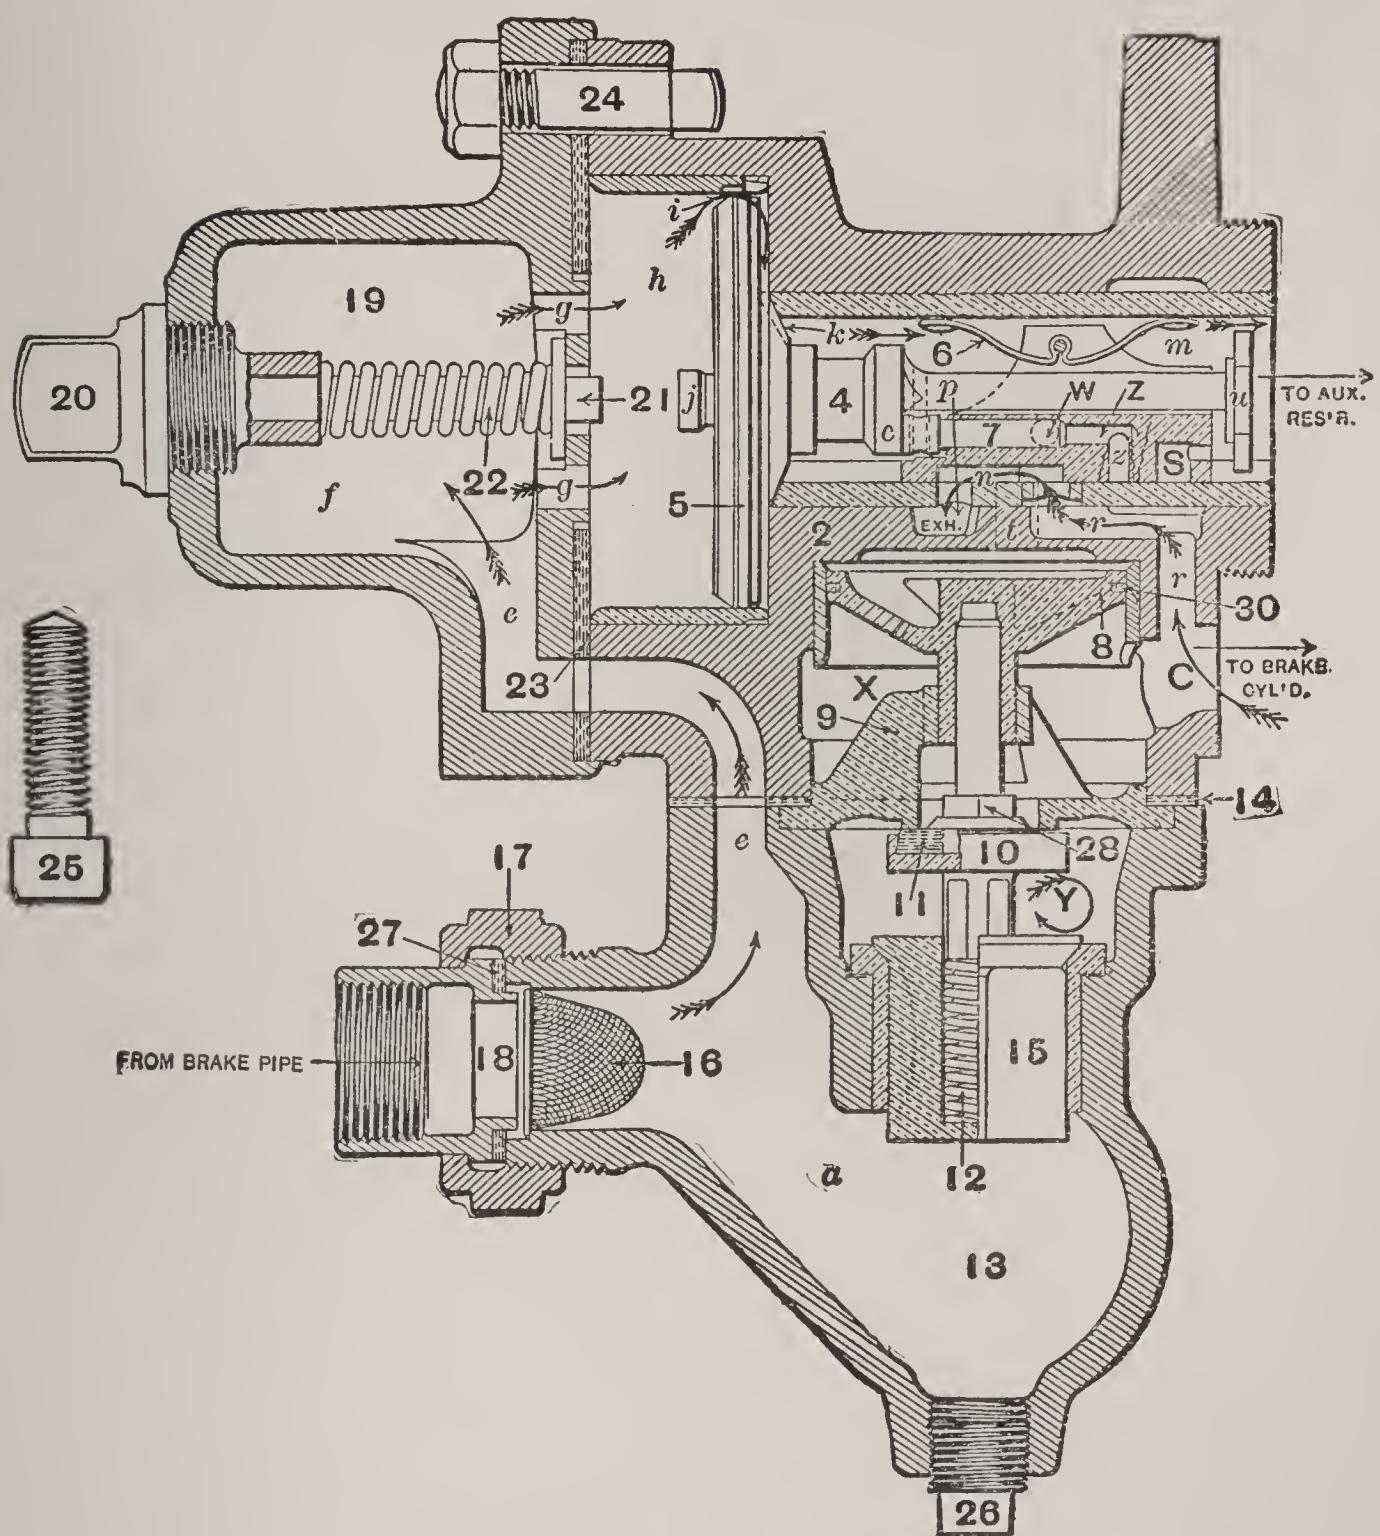
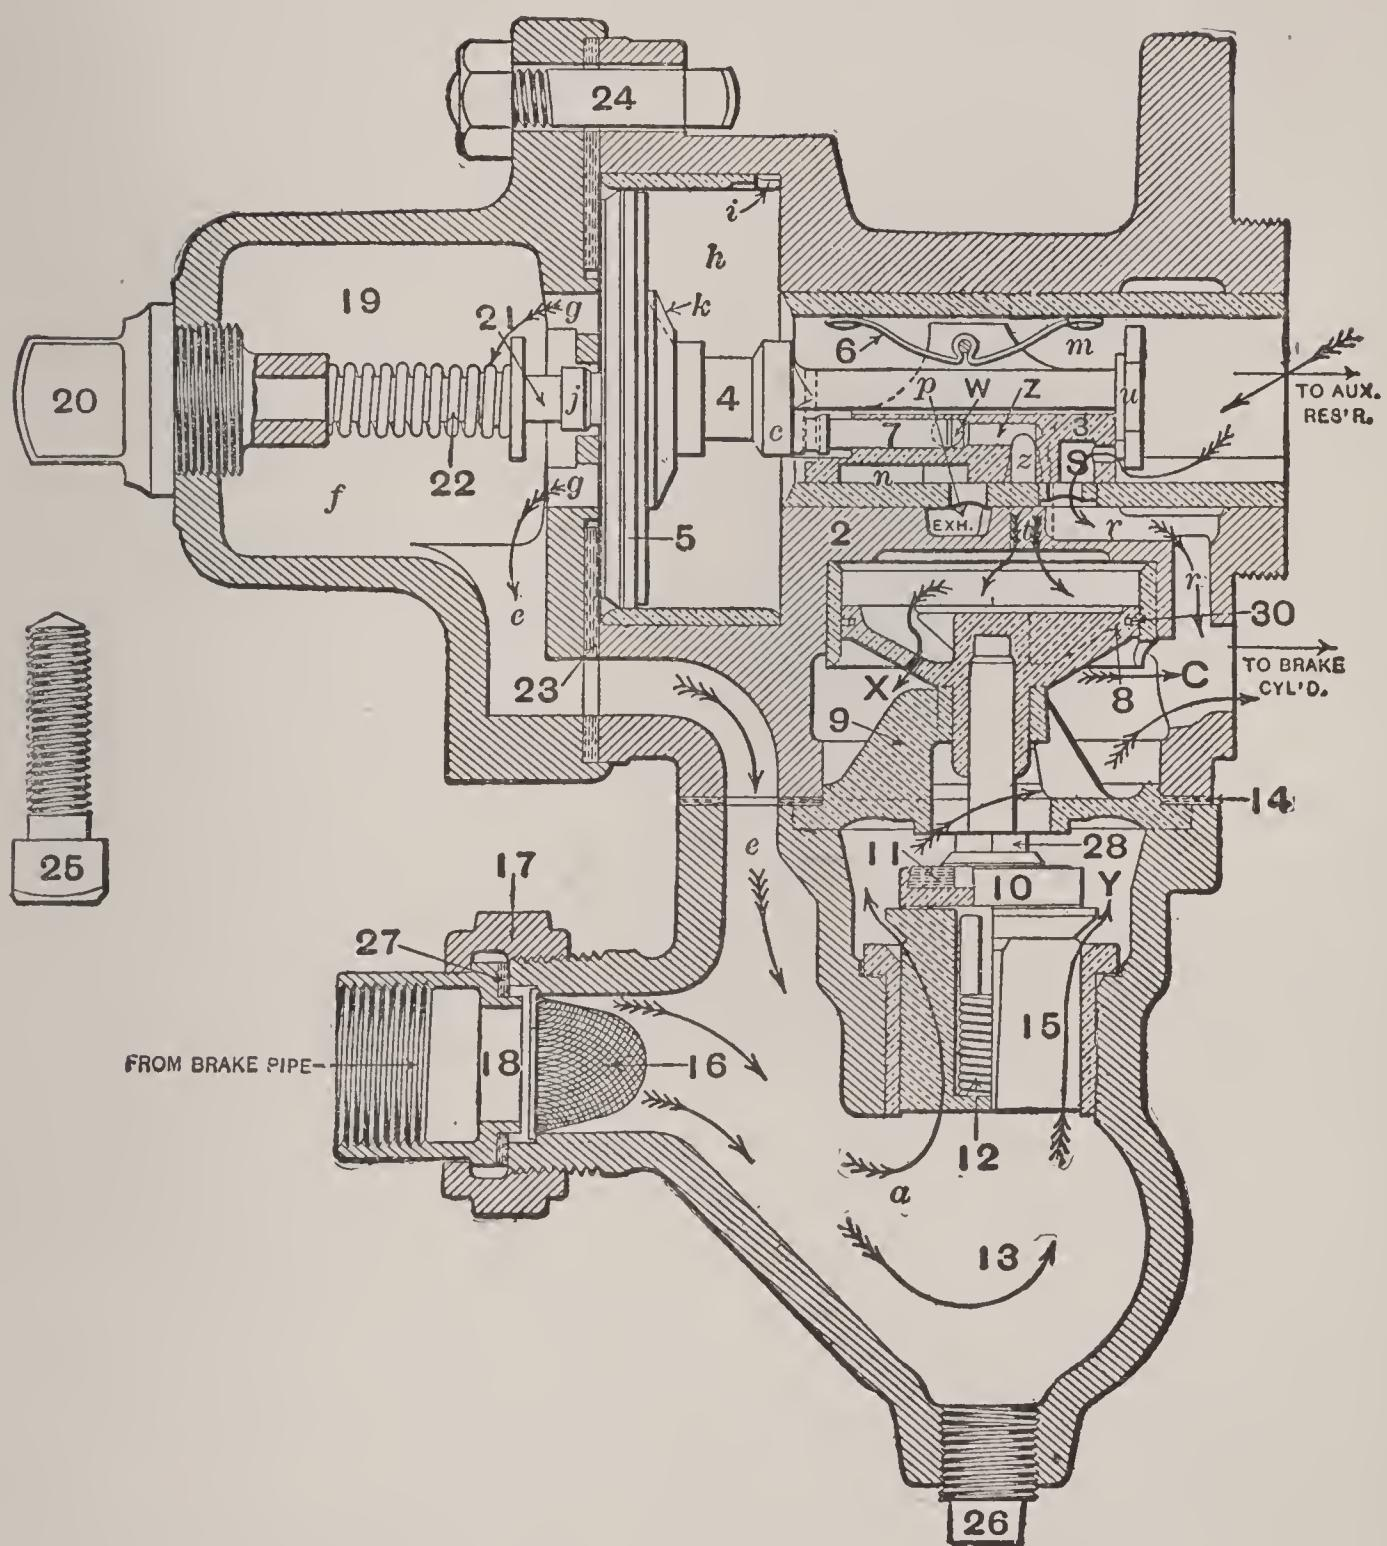
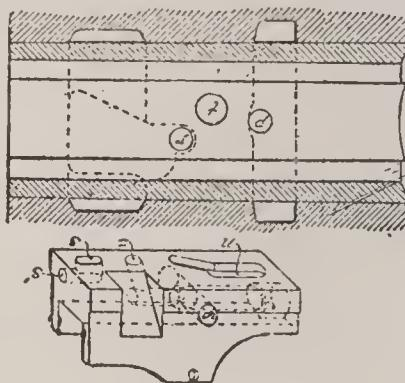

Fig. 1.
Fig. 4.
Fig. 5.
The quick action valve receives its name from three distinct operations it performs in response to variations of brake pipe and auxiliary reservoir pressures, which are (1) it charges the auxiliary reservoir; (2) applies the brakes; (3) releases the brakes. The various positions of the working parts of the triple in accomplishing these results are shown in Figs. 1, 2, 3 and 4. Fig. 5 is a perspective view of the slide-valve and its seat.
**List of Parts.** The various parts of the triple valve, as shown in Fig. 1, are as follows:
**Charging.** Air from the brake pipe enters the triple valve at *a* (Fig. 1) and flows through passages *e*, *f*, *g* and *h*, past the main piston, through feed grooves *i* in the bushing and *k* in the piston seat, and thence through chamber *m* to the auxiliary reservoir, as indicated. Air continues to flow from the brake pipe to the auxiliary reservoir until the pressures equalize, when the main piston is balanced.
**Emergency Application.** A gradual or service reduction of brake pipe pressure causes the main piston to move to the left until stem *j* encounters stem 21, when the tension of the graduating spring prevents a further movement, but a sudden brake pipe reduction causes the main piston to move out so quickly that graduating spring 22 cannot withstand the impact of stem *j*, but yields so that the piston moves to the position shown in Fig. 4. In this position a diagonal slot in the slide-valve (Fig. 5) uncovers port *t* (indicated by dotted lines just below the letter Z), which admits air from the slide-valve chamber to the chamber above emergency piston 8. Piston 8 is thereby forced downward and unseats emergency valve 10, allowing the pressure in the small chamber Y, above check-valve 15, to escape into the brake cylinder. The brake pipe pressure almost instantly raises the check-valve, and the brake pipe air rushes through chambers *a* and Y into the brake cylinder at C. Air from the auxiliary reservoir simultaneously flows through port S of the slide-valve and passage *r* into the brake cylinder, but port S being very small in comparison with the passage-way through chambers *a*, Y and C, only a small amount
**Release.** To release the brakes, the engineman admits main reservoir pressure into the brake pipe, thus increasing the pressure upon the brake pipe face of the main piston until it becomes greater than that upon the auxiliary reservoir side, and forcing the piston to its normal or release position, shown in Fig 1. In this position the air in the brake cylinder is discharged through passage  $r$ , exhaust cavity  $n$  in the slide-valve, and passage  $p$  to the atmosphere, either directly or through the pressure retaining valve. Feed groove  $i$  being again uncovered, the auxiliary reservoir becomes recharged with air from the brake pipe.